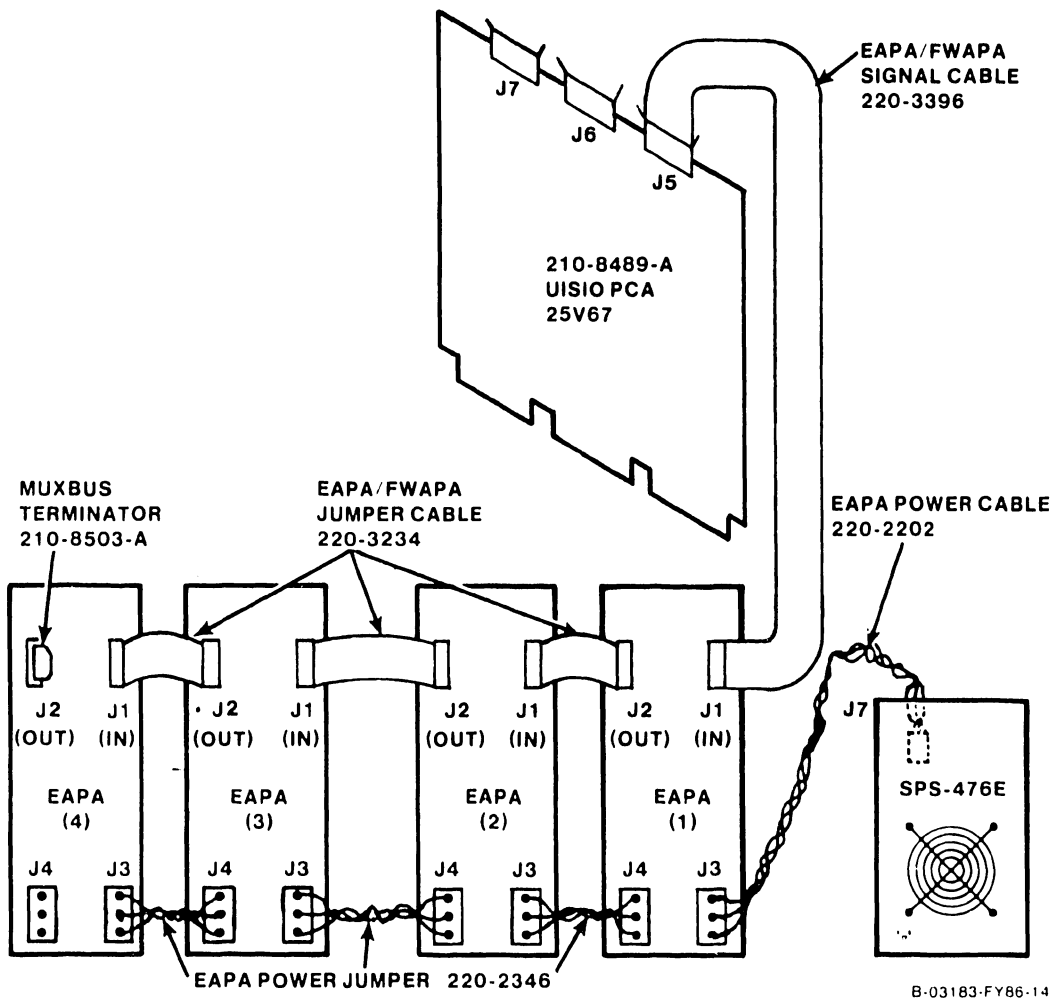

Figure F-7. EAPA Panels Internal Cabling Diagram
6. Install EAPA Power Cable (P/N 220-2202) to J3 of the first EAPA and connect the other end to Switching Power Supply connector J7 located on PCA 210-8611 (figure F-7).